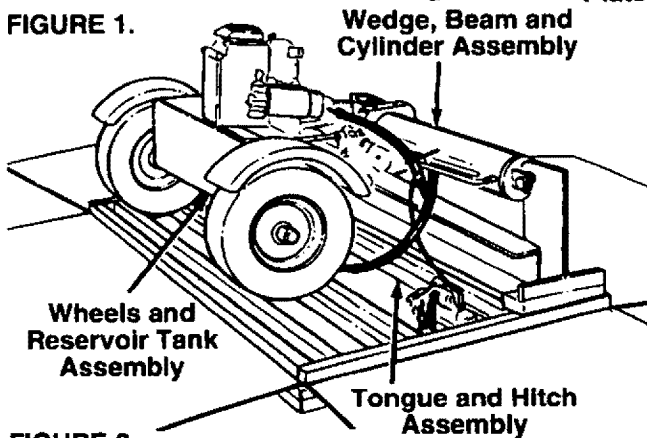

FIGURE 2.
- Cut carton down along each corner. Lay carton down flat. See figure 2.
## ← PARTS IN CARTON (See figure 2)